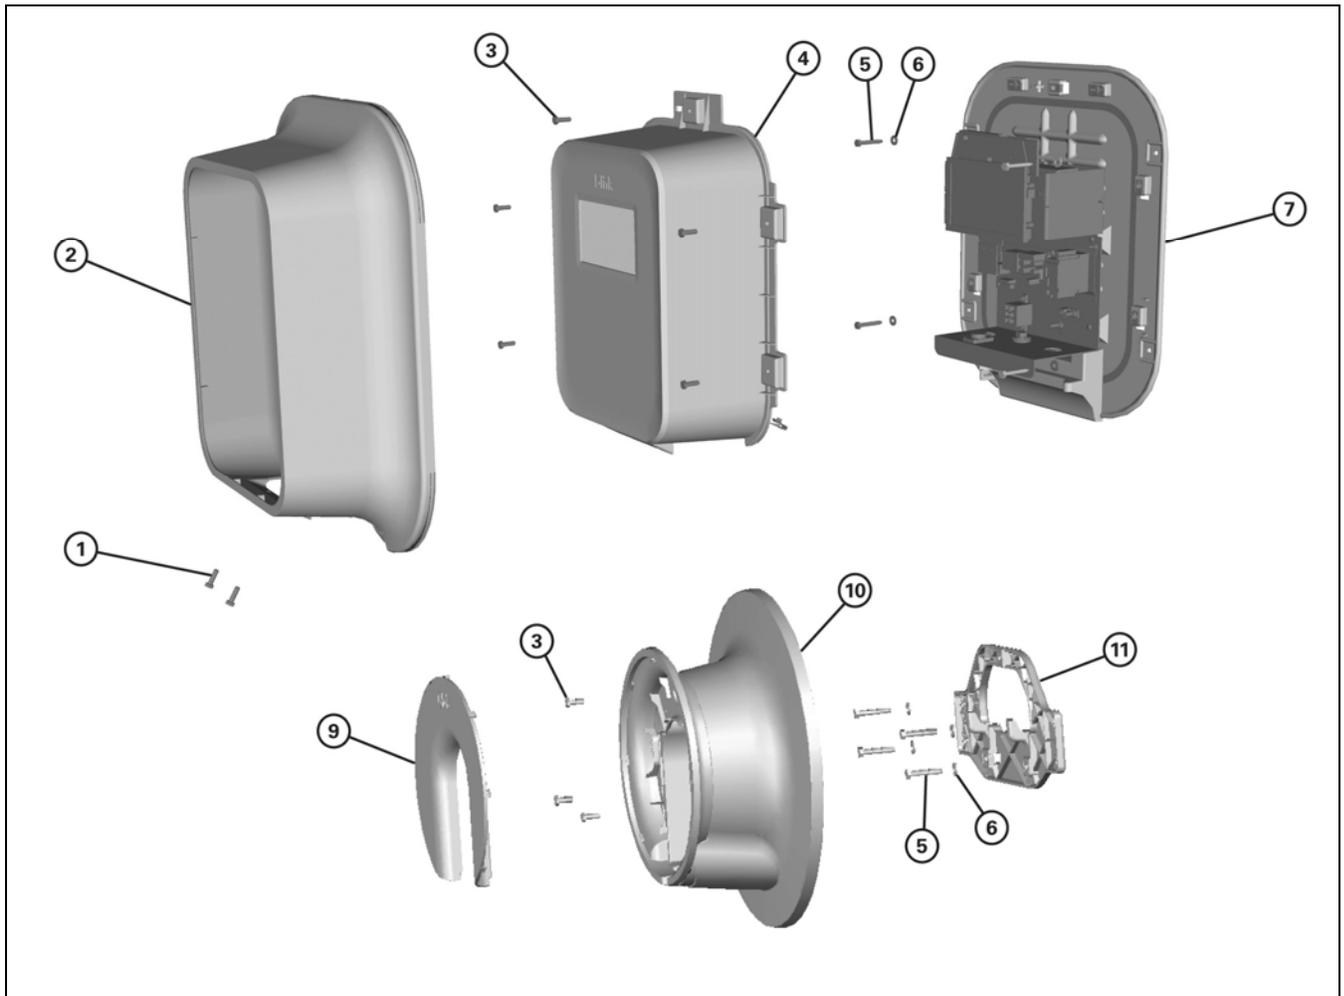

Figure 4 — Charger Housing Assembly and Cord Reel
8. Place the charger housing assembly back in position on the wall and install four 1/4-inch lag screws with washers (Items 5 and 6, Figure 4) to secure the housing assembly in place. Tighten the screws enough to remove any gaps between the wall, housing base plate, washer and screw head.
3. Place the cord reel cleat (Item 11, Figure 4) in the desired location on the wall with the mounting holes in the cleat over the marked studs, if applicable.
6. Place the cleat back in position on the wall and install four 1/4-inch lag screws with washers (Items 5 and 6, Figure 4) to secure the cleat in place. Tighten the screws enough to remove any gaps between the wall, cleat, washer and screw head.
7. Place the cord reel in position on the cleat. Using a socket wrench with extension, install three M6 hex-head bolts (Item 3, Figure 4) to attach the reel to the cleat. Tighten the bolts to 35-38 in-lb (4.0-4.3 Nm).
1. Remove five M6 hex-head bolts (Item 3, Figure 4); then, remove the charger housing cover from the charger assembly. DO NOT remove the four lag bolts securing the charger base to the wall.
9. With the service wiring complete, place the housing cover in position on the charger assembly and install five M6 hex-head bolts (Item 3, Figure 4) to secure the cover in place. Tighten the bolts to 35-38 in-lb (4.0-4.3 Nm).
- Install two Torx-head screws (Item 1, Figure 4) at bottom to secure the bezel to the charger housing.